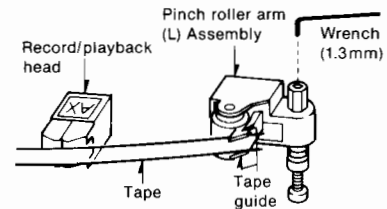

Fig. 2
1. Adjustment after Replacement of Pinch Roller Arm (L) Ass'y
- Set the test tape (tape with mirror: QZZCRD) according to the tape guide of record/playback head. Then set the mode to "pause" and adjust the hex. hole screw of the adjusting nut so that the tape does not touch the tape guide of pinch roller arm (L) ass'y. (Shown in Fig. 2.)
- If the tape oscillates (or twists), go back to the adjusting step (1).